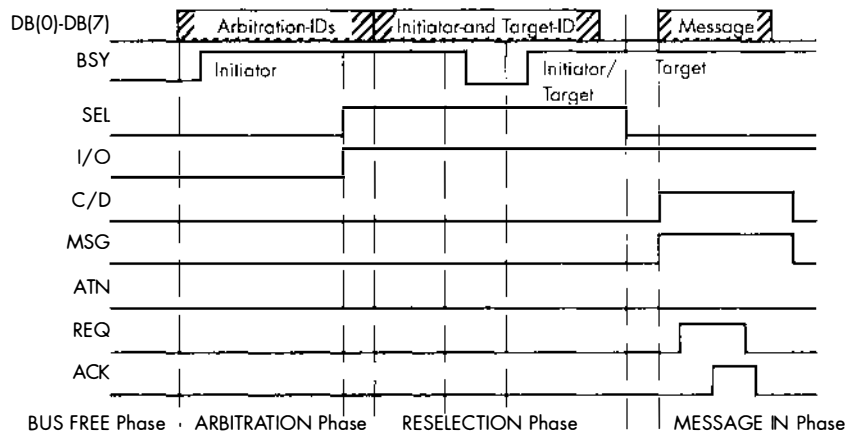

Figure A.26: ARBITRATION, RESELECTION, and MESSAGE IN Phases
- ARBITRATION, RESELECTION, and MESSAGE IN phases (Figure A.26)